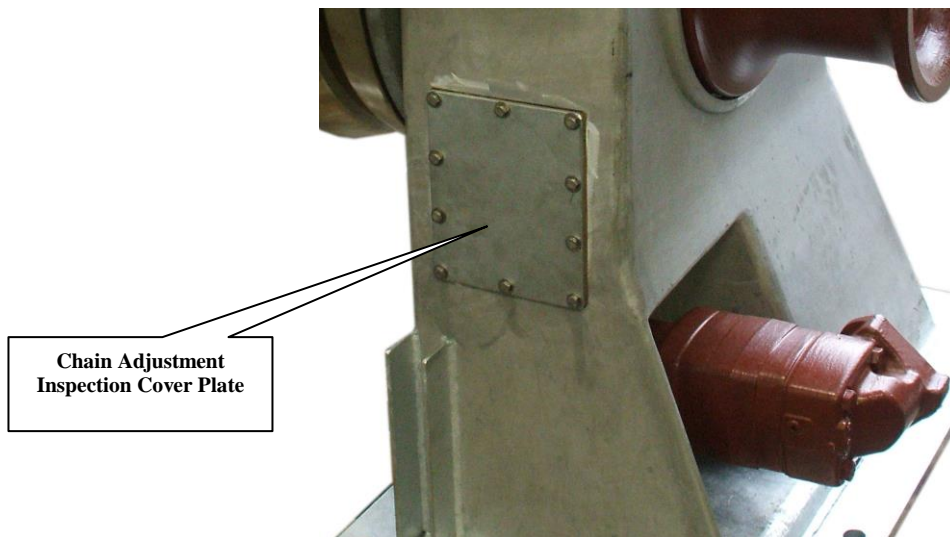

Fig 14. Lower Chain Cover Inspection Plate
- 1) Remove the Lower Chain Adjustment Cover Plate to inspect Chain tensioning. By turning and Loosening the (4) Motor Plate Mounting Bolts, and by turning the Motor Plate Adjustment Bolt Heads, the Hydraulic Motor with the Hydraulic Motor Mounting Plate (which is slotted to allow adjustment) and Motor Drive Sprocket will be adjusted up or down to achieve proper Chain tension. See Figures 14, 15 and 16 below for guidance.